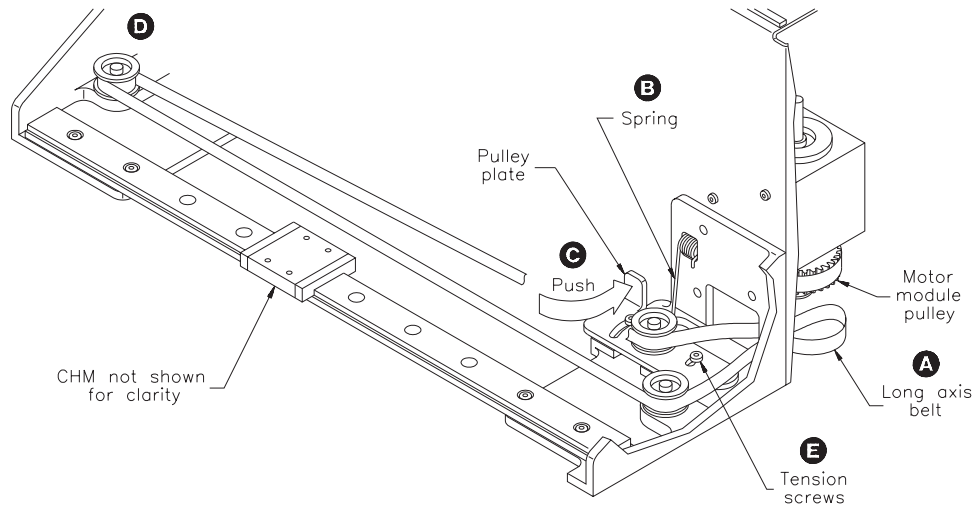

Figure 6 Removing and replacing the long axis belt
1. Remove the long axis belt (see Figure 6 on page 6).
6. Replace the long axis belt in the order shown in steps A , B , C , D , and E in Figure 6. Tighten the tension screws (step E) to 15.0 inch-pounds (17.2 kg-cm) of torque.